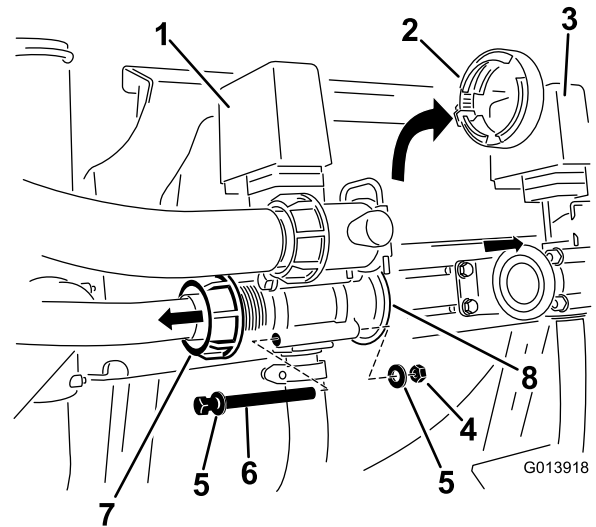

Figure 4
4. Locate the fly-nut securing the agitation hose to the agitation valve body. Loosen the fly-nut to allow space for the valve body fasteners to be removed (Figure 4).
6. Remove the adapter from the valve body (Figure 4).